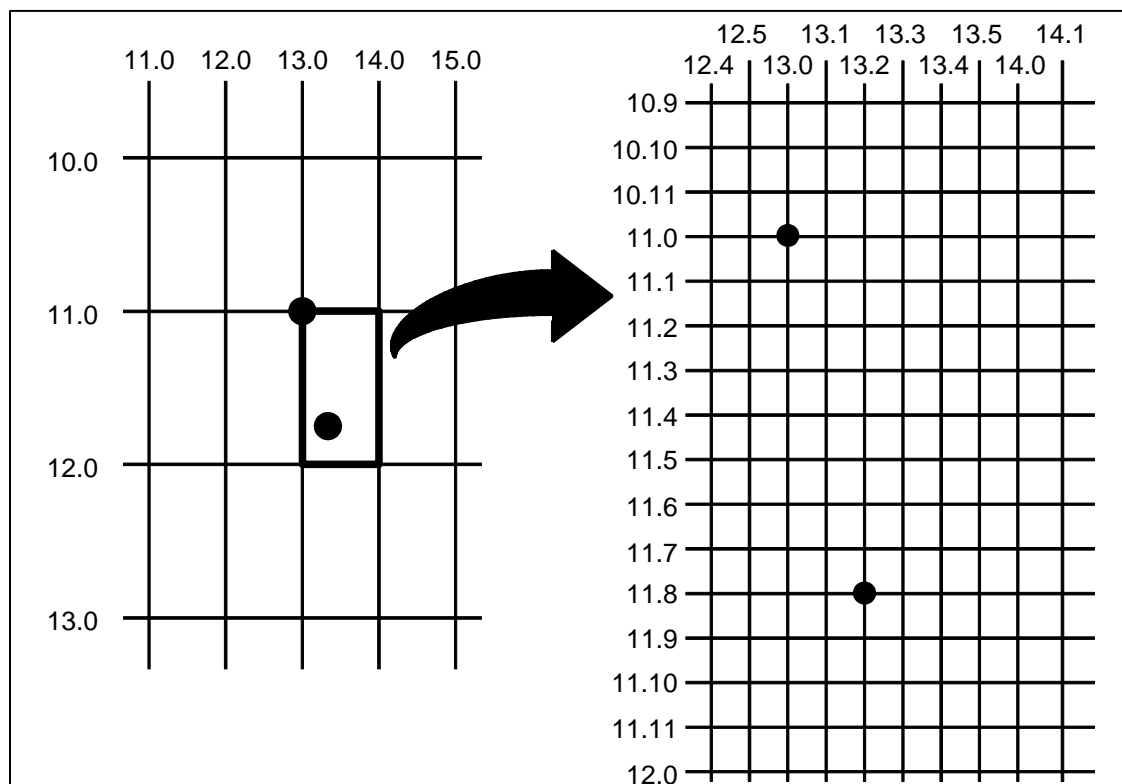

Figure 2. CP.DP Format Example
Each character location is a cell. Each cell is a grid 12 dot rows high by 6 dot columns wide (printing at 6 lpi and 10 cpi). The CP.DP format allows a character cell position (CP) and a specific dot position (DP) within the cell to be identified as shown in Figure 2. The DP portion of the CP.DP format specifies a location down (in reference to rows) and to the right (in reference to columns) within the character cell position.
For example, refer to Figure 2. Suppose a line runs along character position column 13 (CP = 13). At the same time, an alphanumeric string must begin in column 13. With CP.DP format, the alphanumeric string can be offset 2 dot positions (DP = 2) in column 13 to avoid overlap. Specify 13.2 (CP = 13, DP = .2) for the starting column of the alphanumeric string. Similarly, to place a horizontal line 8 dot rows beneath another horizontal line in character row position 11, specify row 11 for one line and row 11.8 for the other line.